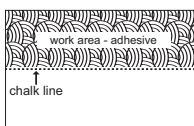

Figure 8a
STEP 4: Installing the Floor (Glue-Down Installations) (Figures 8a–8d)